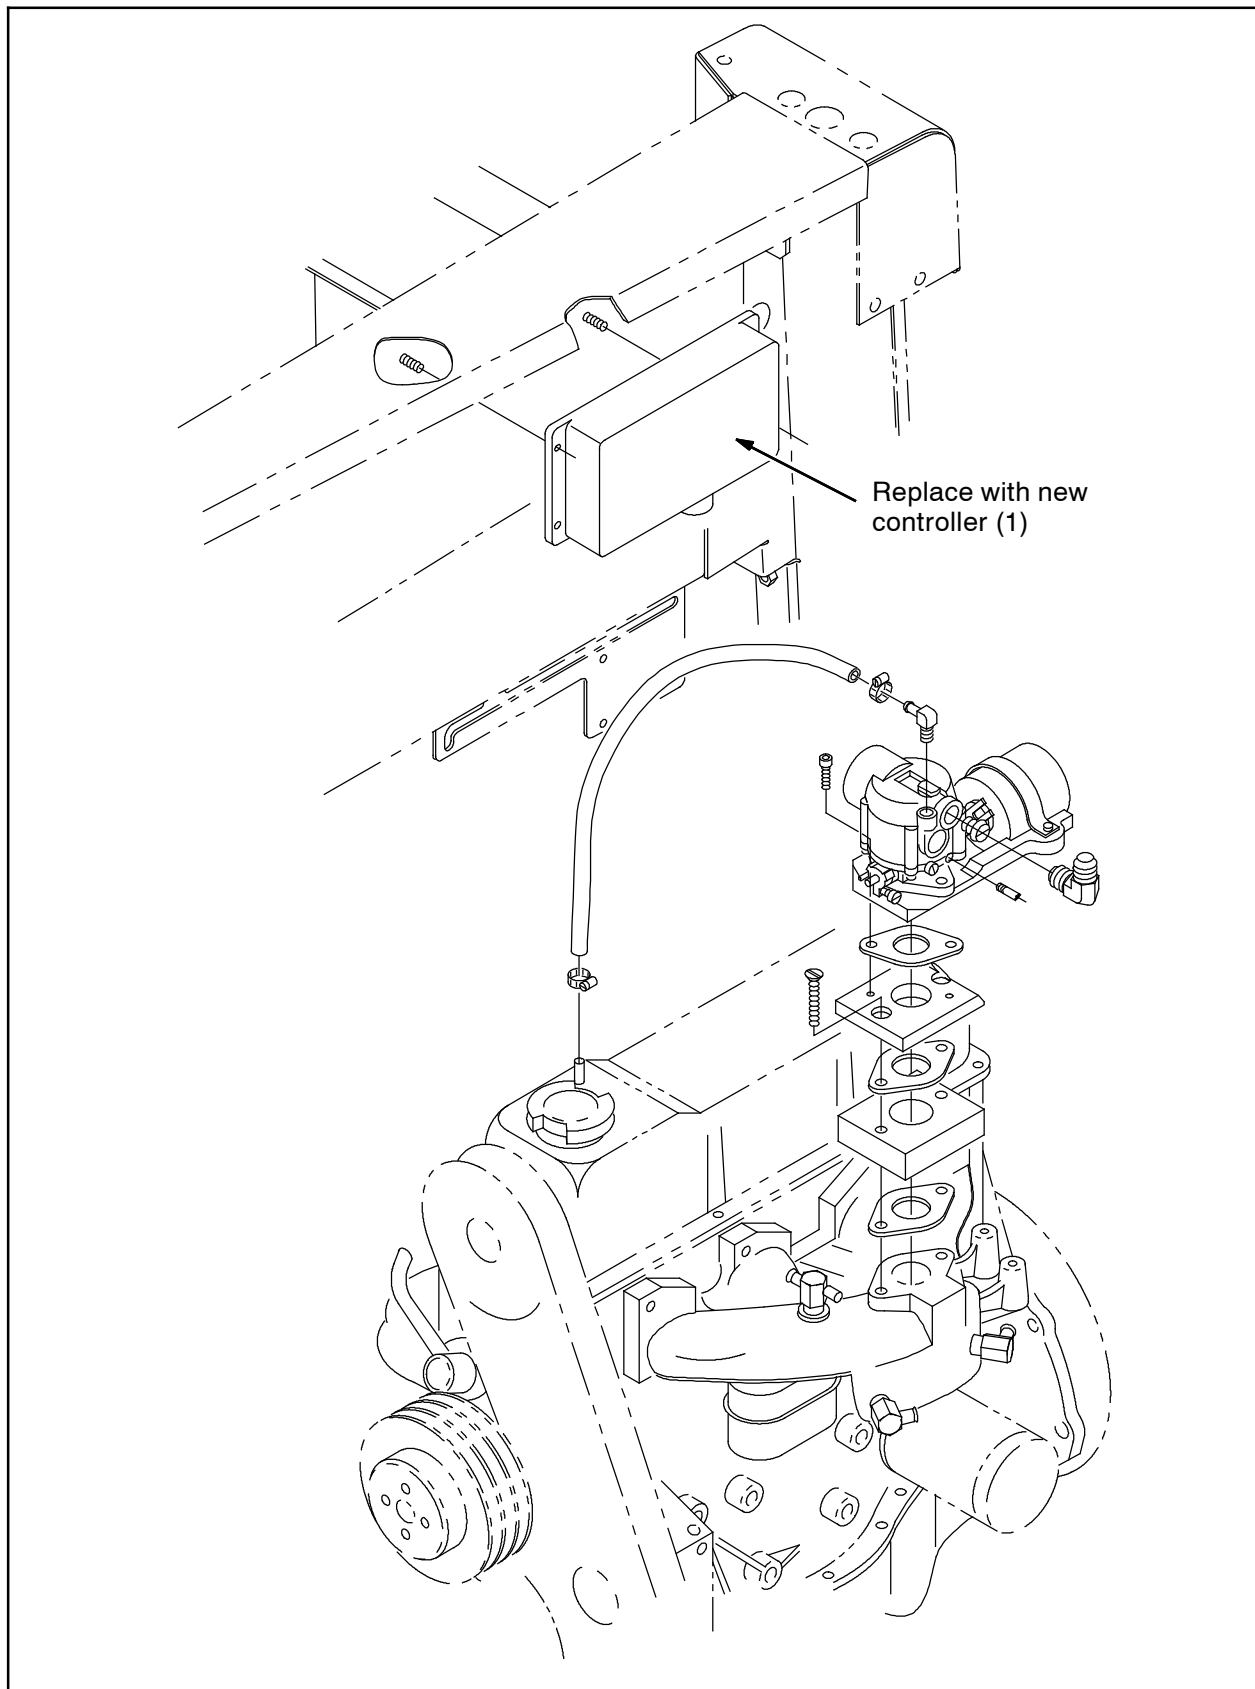

FIG. 12 - 8410 Controller Location LP / Gas / Diesel
4. Locate the controller in the engine compartment, mounted near the cover support rod. (Fig. 12)
7. Set up the controller (1). Refer to the **SET UP NEW DIGITAL CONTROLLER** instructions for information to setup the controller.
8. Connect the main wire harness to the new controller (1). Do not secure the controller to the machine. The controller is secured to the machine after it is tested.